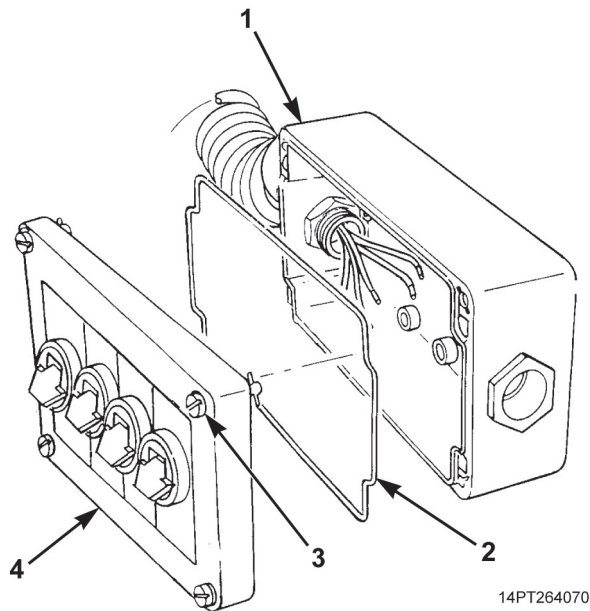

Figure 7. MCS Control Box Cover Assembly.
6. Install gasket (Figure 7, Item 2) on cover (Figure 7, Item 4).
7. Install cover (Figure 7, Item 4) on control box (Figure 7, Item 1) and tighten four twist-lock screws (Figure 7, Item 3).